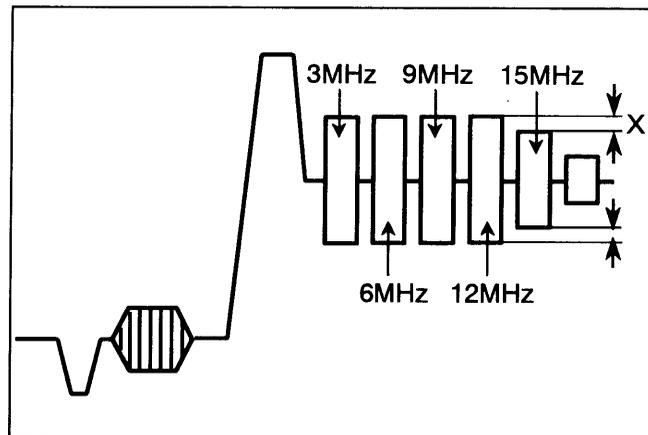

Figure 10
4. Adjust VC1 so that the frequency response of 15MHz becomes flat with 3MHz to 12MHz as shown in Figure 10.